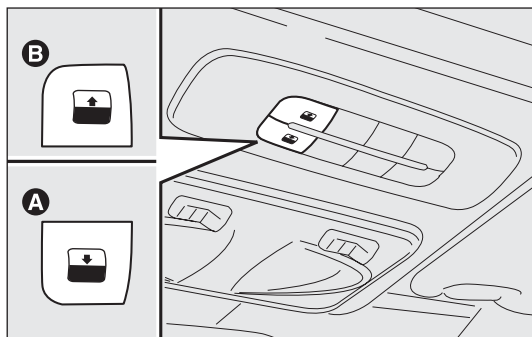

fig. 83
From the wide open position, press button A-fig. 83 for over half a second to set the front pane to the “spoiler” position; press the button again to stop the sunroof at an intermediate position; press button A-fig. 83 once more and hold it down to close the sunroof completely.
- ☐ press button A-fig. 83 at close position;